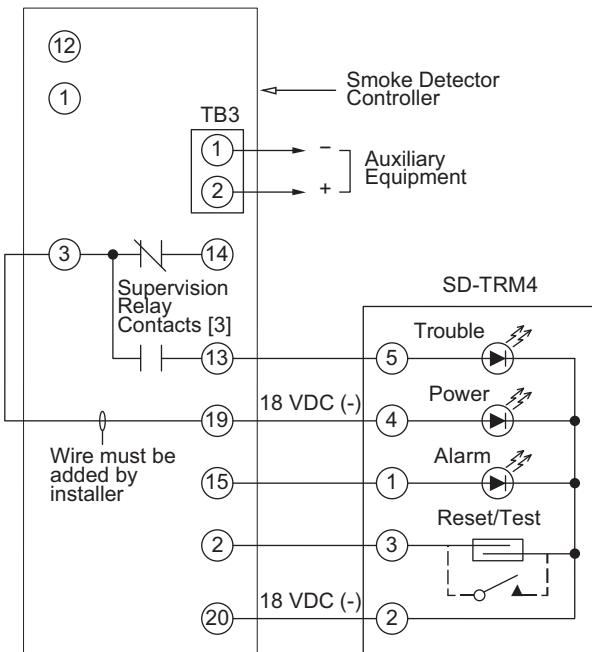

Fig. 47 – Remote Test/Reset Station Connections
The test/reset station dirty sensor test checks the test/reset station's ability to initiate a sensor dirty test and indicate the results. It must be wired to the controller as shown in Fig. 47 and configured to operate the controller's supervision relay. For more information, see "Dirty Sensor Test" on page 35.
1. Verify that the remote test/station is wired as shown in Fig. 47. Repair or replace loose or missing wiring.